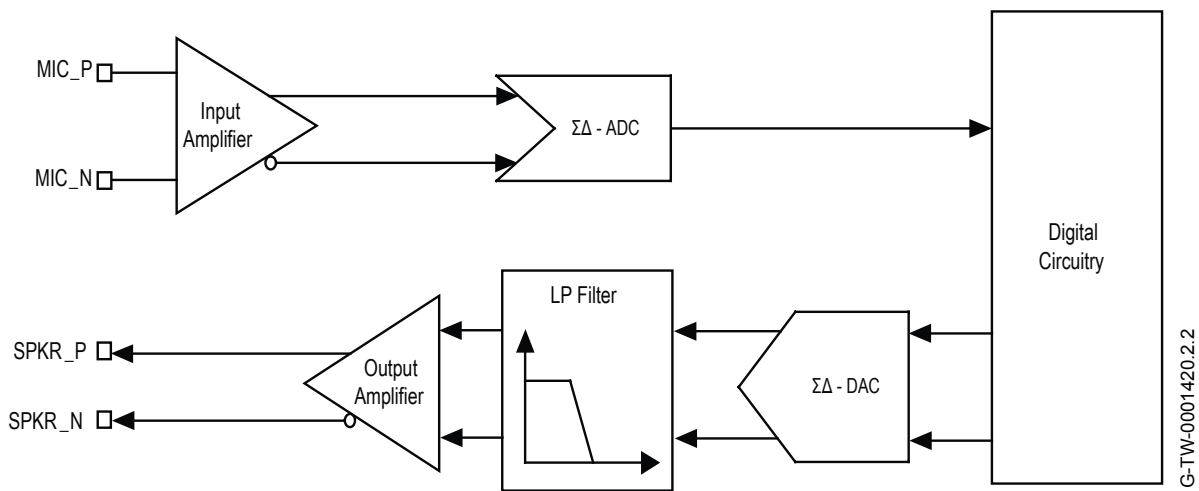

Figure 10.1: Mono Codec Audio Input and Output Stages
- A second-order Sigma-Delta converter, as Figure 10.1 shows.